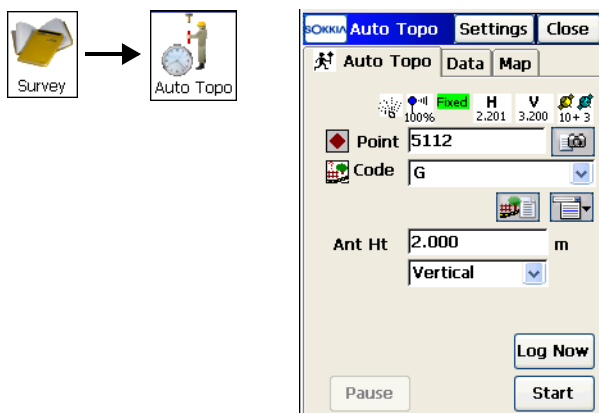

Figure 8-25. Auto Topo
1. Tap **Survey ▶ Auto Topo**. On the *Auto Topo* screen, enter the point name, select the Code if necessary and insert the Antenna height and height type (Figure 8-25).